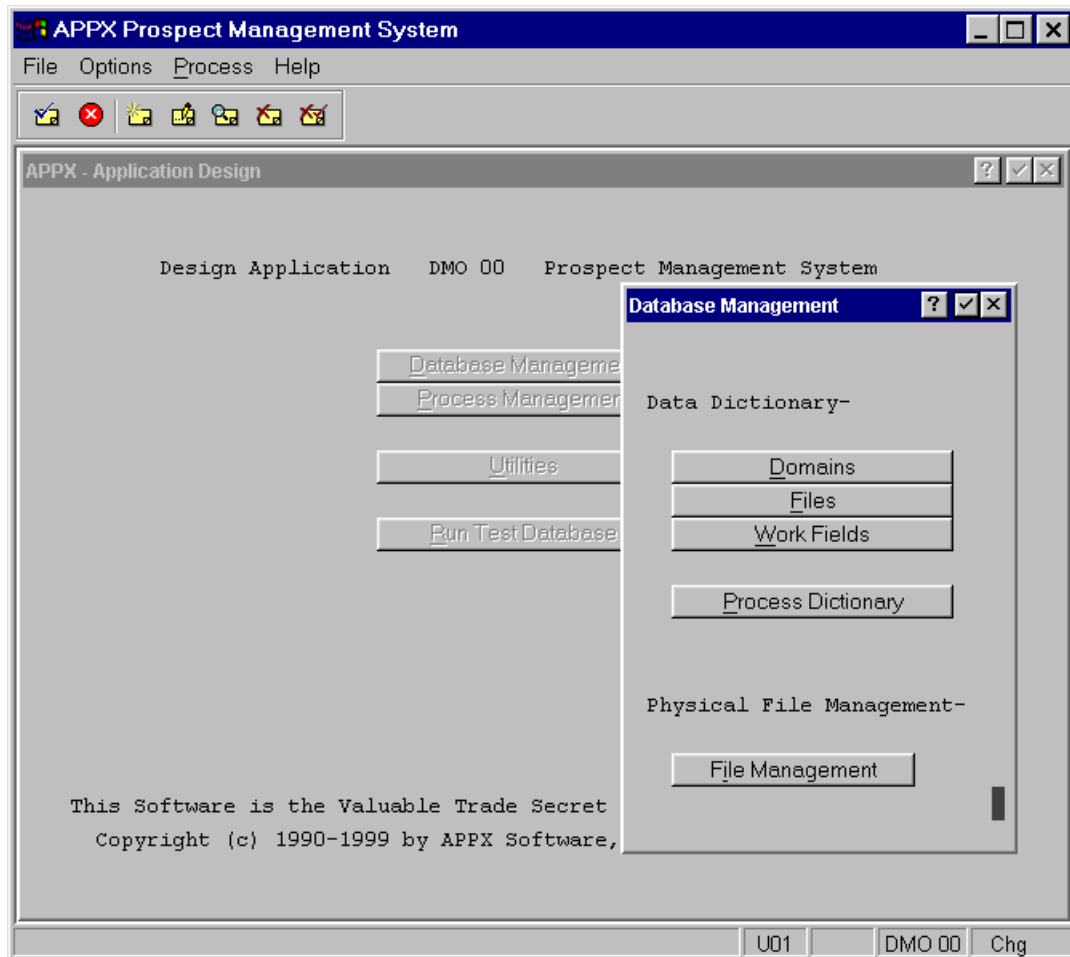

Figure E1.1 – Database Management Menu
- From the **APPX - Application Design** menu, select **Database Management** by either clicking on the **Database Management** button or by pressing **Alt + D**. The Database Management menu (*Figure E1.1*) is displayed.